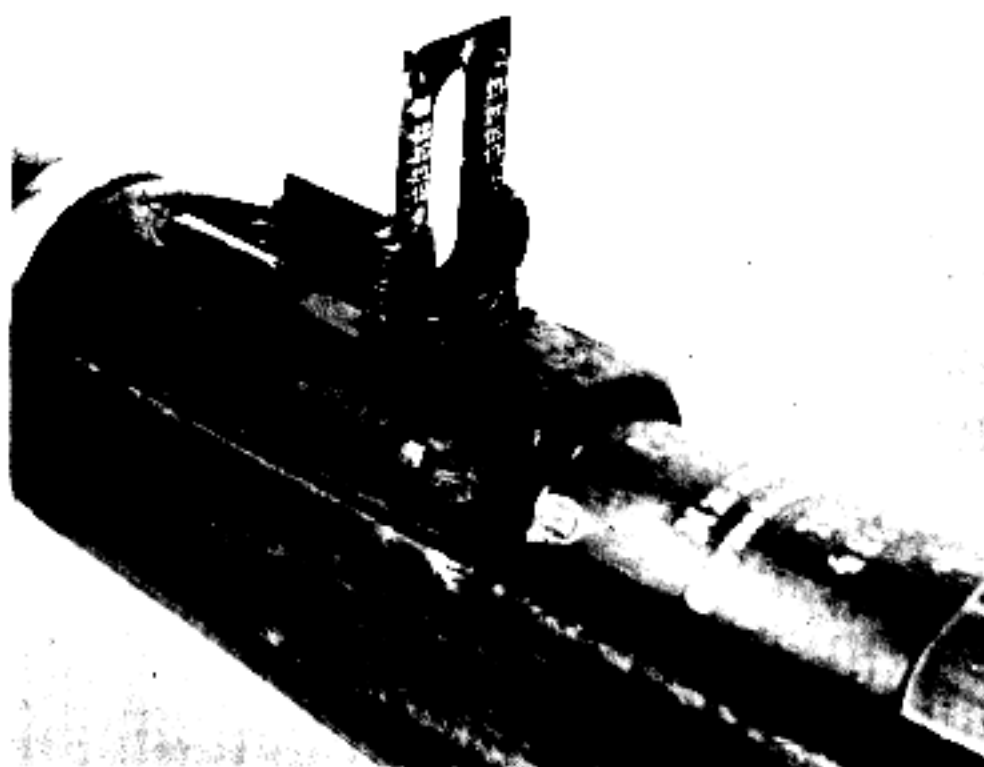

FIGURE 15. REAR SIGHT FOR CARBINE M1910.
- c. The leaf-type rear sight (fig. 15) is graduated from 400 to 2,000 arshins (312 yards to 1,560 yards).